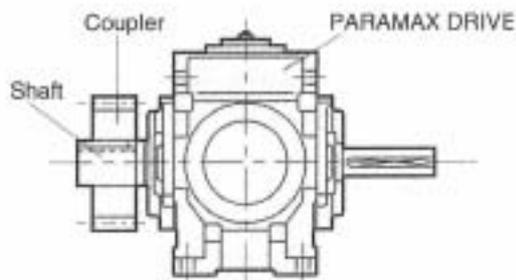
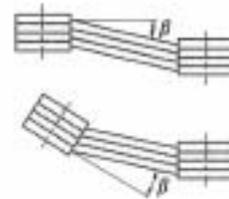

Fig. 4
Fig. 5
(2) Use of chain, sprocket, and gear
- Locate the sprocket and gear as close to PARAMAX DRIVE as possible so that the point of application of the load will be closer to the PARAMAX DRIVE'S vertical centerline. (Fig. 4)
(3) Use of V belt
- Eccentricity of parallelism between two pulleys shall be less than  $20^\circ$ . (Fig. 5)